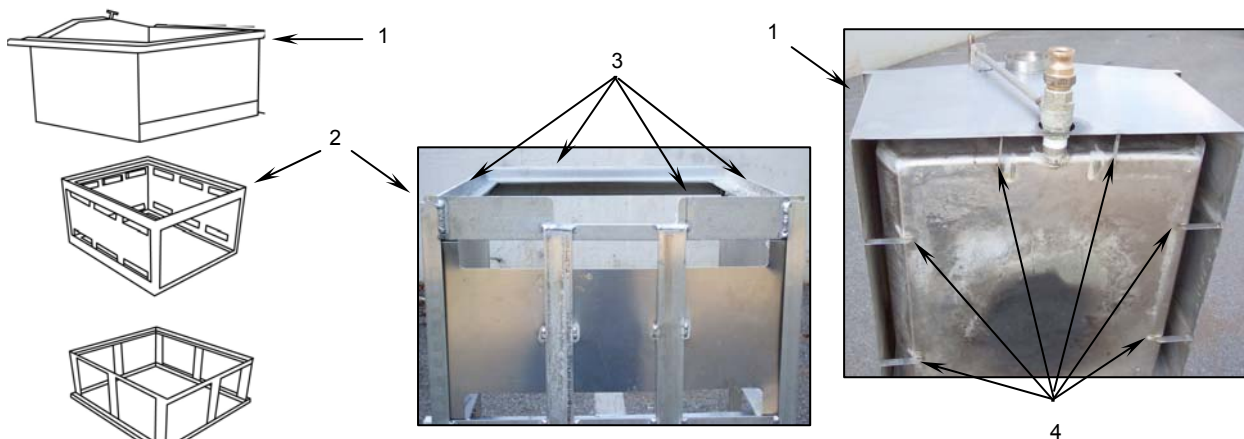

Figure 12. Sink Installation.
- e. Place the one sink assembly (**Figure 12, Item 1**) on top of each burner rack (**Figure 12, Item 2**). Ensure the top edge of the each burner rack (**Figure 12, Item 3**) fit inside the reinforcing guides (**Figure 12, Item 4**) on the bottom of the each sink assembly.